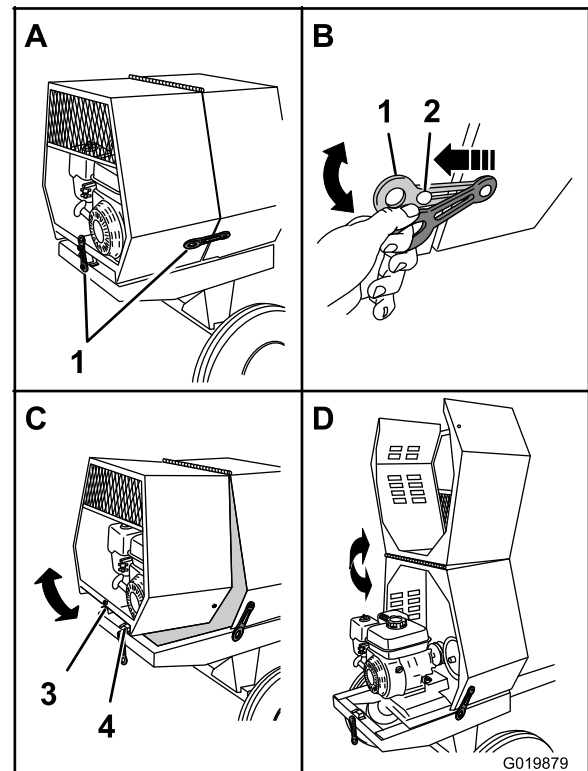

Figure 29
1. At the side of the machine where the front cowl and rear cowl meet, grasp the ring of the latch and pull it off from the latch anchor on the rear cowl (Figure 29).
3. At the back of the machine where the rear cowl meets the frame of the machine, grasp the ring of the latch and pull it off from the latch anchor on the cowl (Figure 29).
4. Rotate the rear cowl up and forward until it is fully positioned on top of the front cowl (Figure 29).
1. Rotate the rear cowl rearward and down until the receiver at the bottom center of the cowl is aligned with the V-fitting and flush on the frame of the machine (Figure 29).
4. Repeat step 3 on the opposite side of the machine (Figure 29).